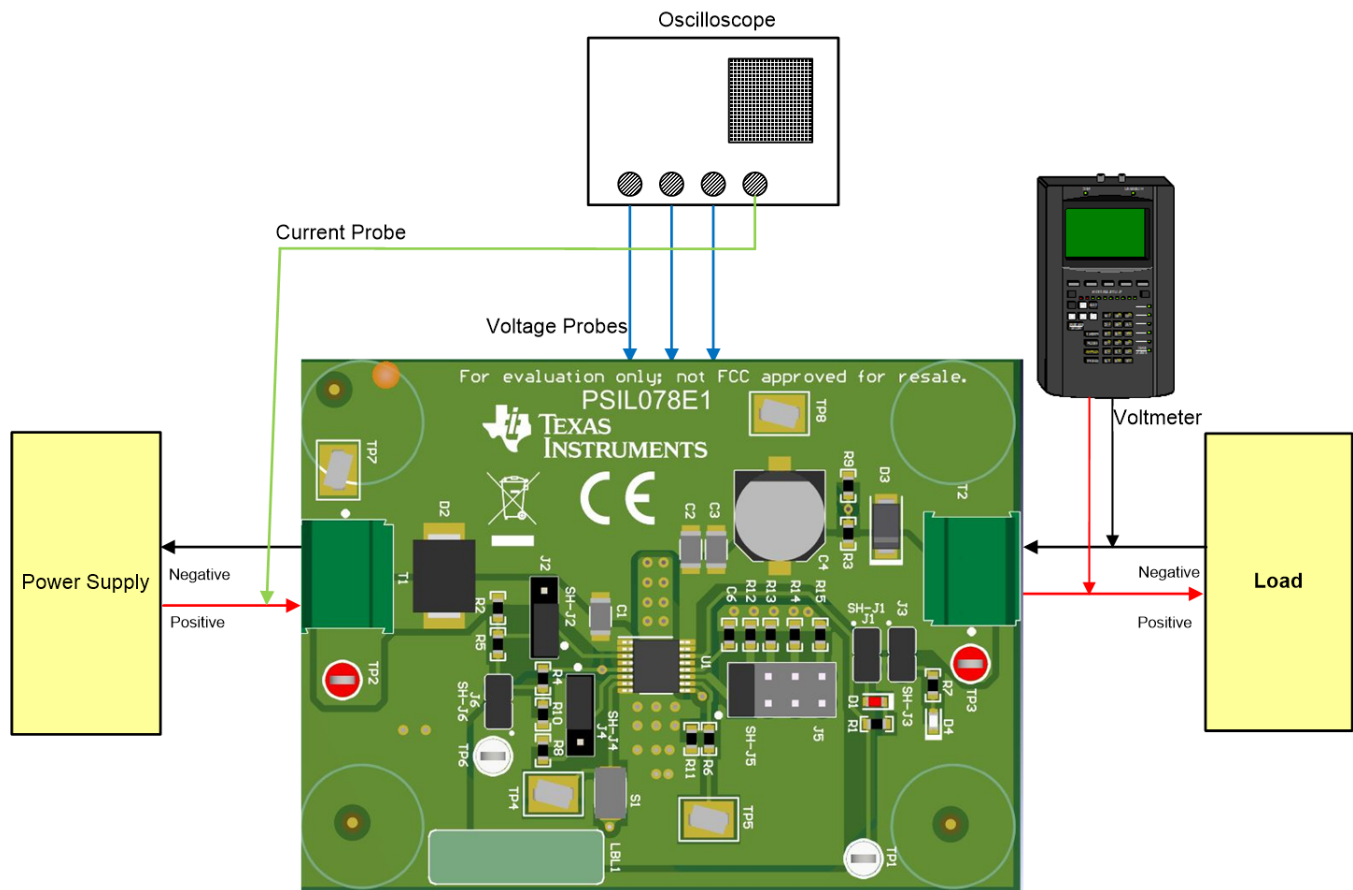

Figure 2. LM76202-Q1 EVM Setup
- Connect the power supply, load, oscilloscope and voltmeter to the EVM as shown in Figure 2